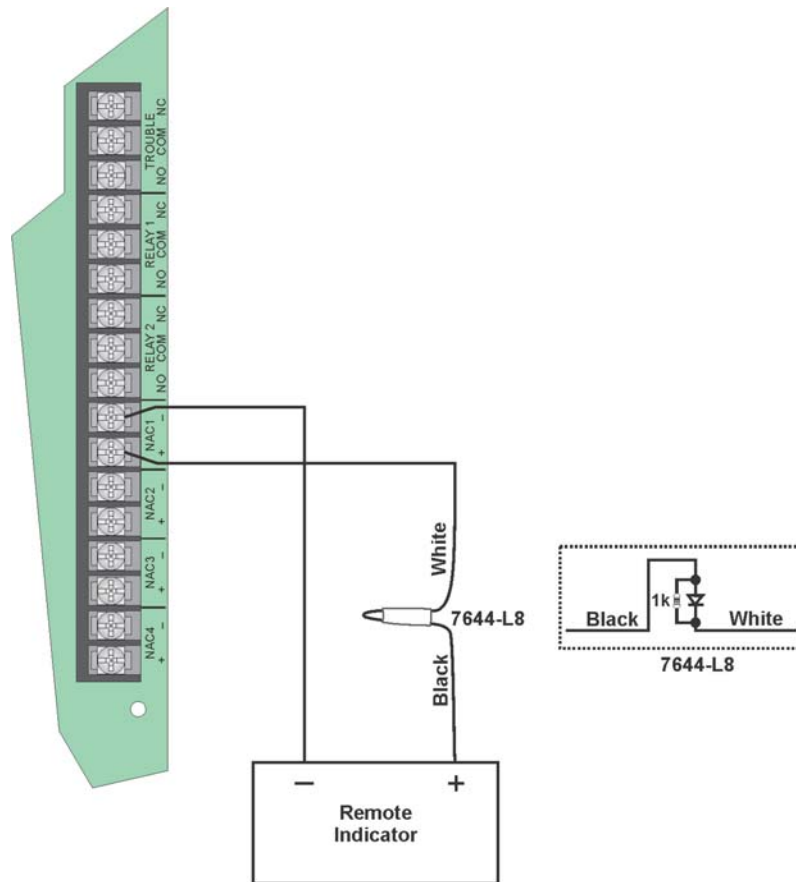

Figure 4-40 Polarity Reversal Connection Using the 7644-L8
1. Wire the 7644-L8 to the control panel as shown in Figure 4-40. Do not install an EOL resistor on the terminals of the NAC circuit used.